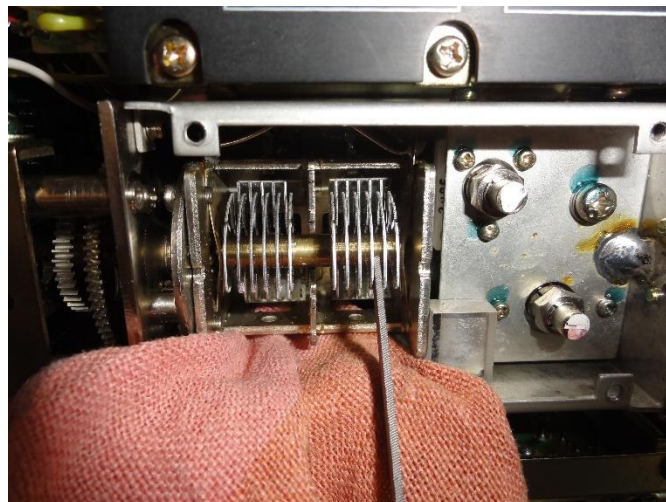

Figure 4
- Cover the lower part of the variable capacitor with a cloth to prevent filings from entering the unit. (see Figure 4).